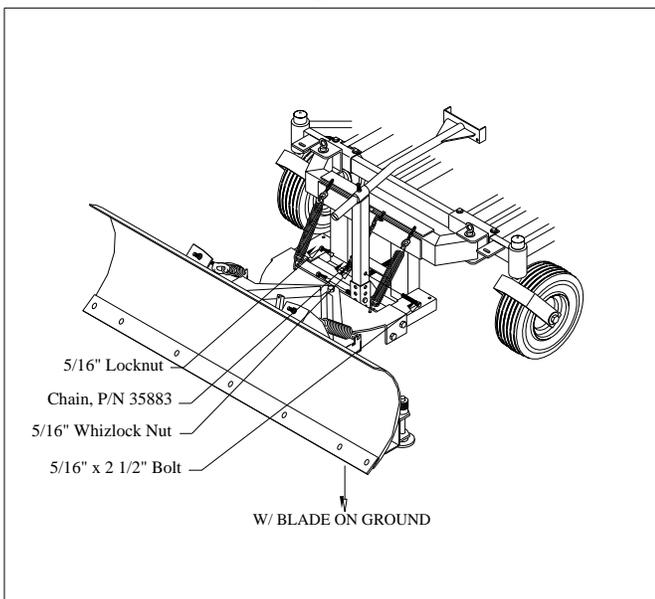

Fig. 11
11. Slip 5/16" x 2 1/2" bolt thru hole in kick tube above the receiver in the main carrier frame. Slip chain link over end of 5/16" x 2 1/2" bolt and secure with 5/16" locknut. Note: to determine what link of chain to secure to bolt, push blade down and hold to the ground pull the chain tight and then loosen the chain by one link.. Depending on what adjustment you have on your kick tube/push tube assembly different links on the chain may need to be used. **FIG. 11**